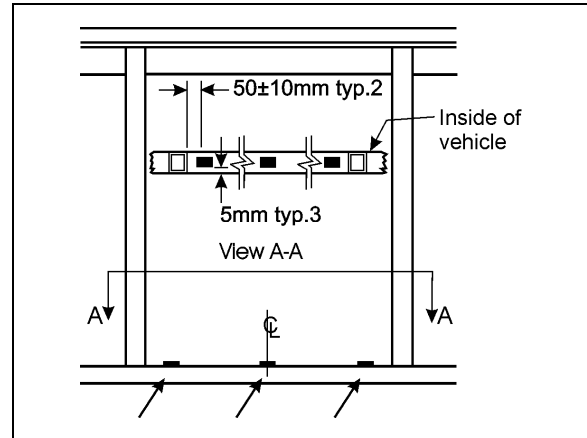

FIGURE 70: AWNING WINDOW - RUBBER BUMPER INSTALLATION
- Glue on the structure horizontal member, 3 rubber bumpers (#790597) (see FIGURE 70) [50mm≈2”].